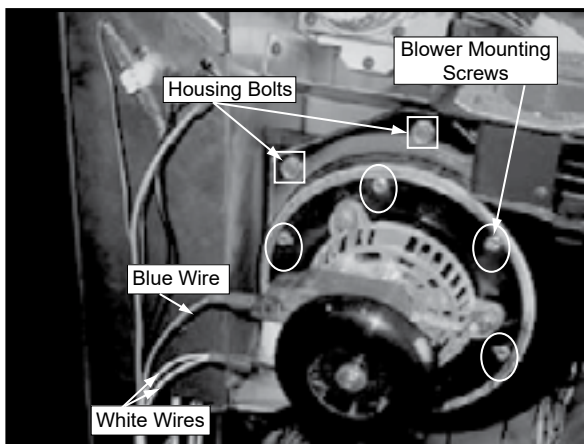

Figure 25.2
- Disconnect the white and blue wires from the blower. Remove blower mounting screws (not housing bolts), **Figure 25.2**, from blower housing and remove blower. The replacement blower is shipped with a housing. If you do not need the housing, discard it. If you do need to replace the housing you will also need to replace the gasket.